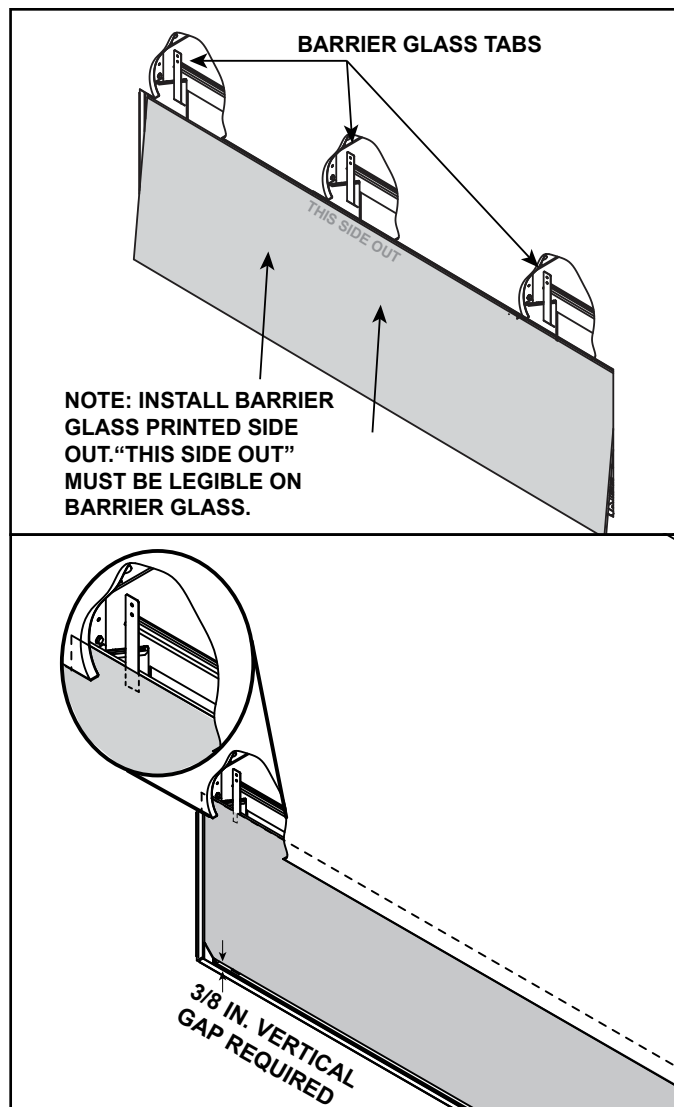

Figure 4.5 Replace Barrier Glass - Clean Face Finish
**NOTE:** Barrier glass must be installed between the finishing material and the barrier glass tabs. If not installed correctly, appliance will not operate. See Figure 4.5.